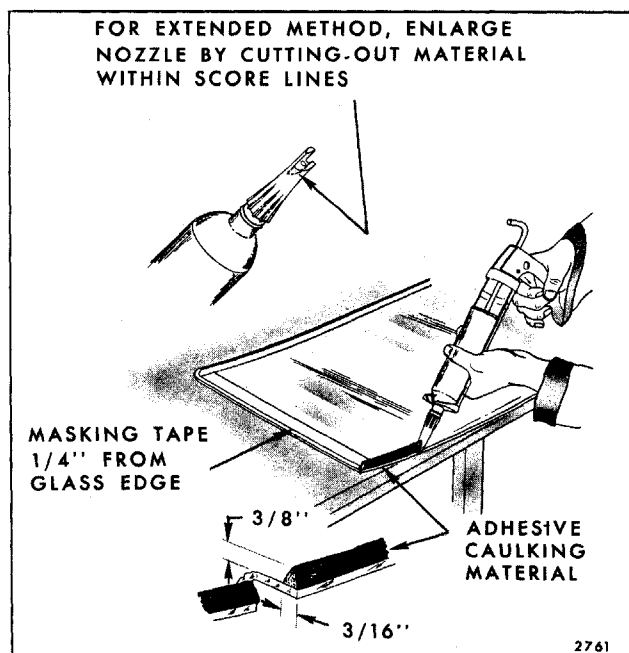

Fig. 11-10 - Adhesive Material Application - Extended Method
10. If desired, apply masking tape around inner surface of glass 6 mm (1/4") inboard from outer edge. On windshield installations, apply tape to top and sides only. Do not use tape across bottom. Removal of tape after glass installation will aid in clean-up and give a smooth, even edge to adhesive material (Fig. 11-10).
11. Nozzle furnished in kit is designed for short method. For extended method, enlarge nozzle opening by removing material within score lines as indicated in Figure 11-10. Do not notch nozzle beyond score lines.
14. With caulking gun and nozzle positioned as illustrated in Figure 11-10, carefully apply smooth continuous bead of adhesive material 9 mm (3/8") high by 5 mm (3/16") wide at base completely around inside edge of glass.